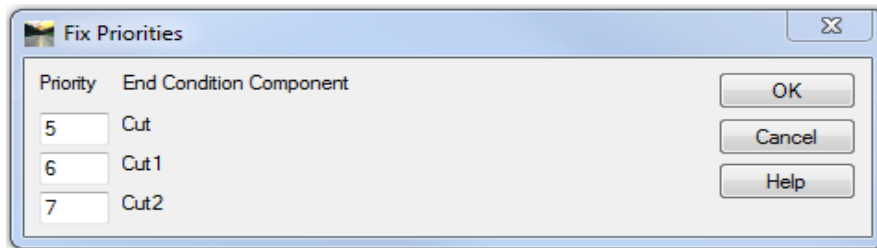

Figure 6-25 InRoads Fix Priorities Component
- R. If there is a conflict with the priorities or the order of the priorities needs to be changed, it can be modified in the **Fix Priorities** dialog box Figure 6-25. For this lab, the priority of the end conditions does not need to be changed. Therefore, **save** the data, **close FA.itl** and **open** the **HWY.itl** file.